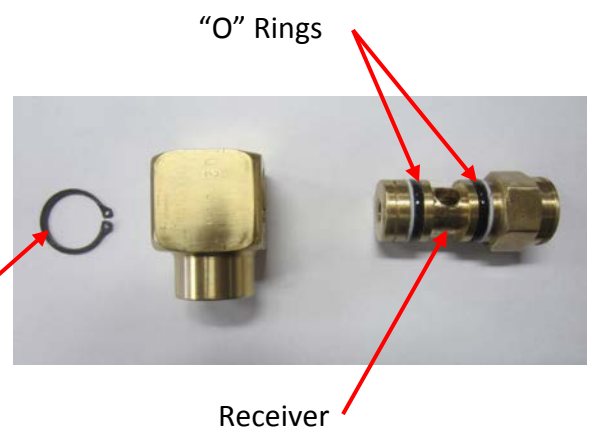

Figure 4-38-2
- 3) Apply "O" ring lubricant around the receiver of the brass swivel elbow (Refer to Figure 4-38-2).
- 4) Slide the brass swivel elbow over the receiver end and install the "C" retainer ring (Refer to Figure 4-38-2).
- e) Remove the two "O" rings (Refer to Figure 4-38-2)